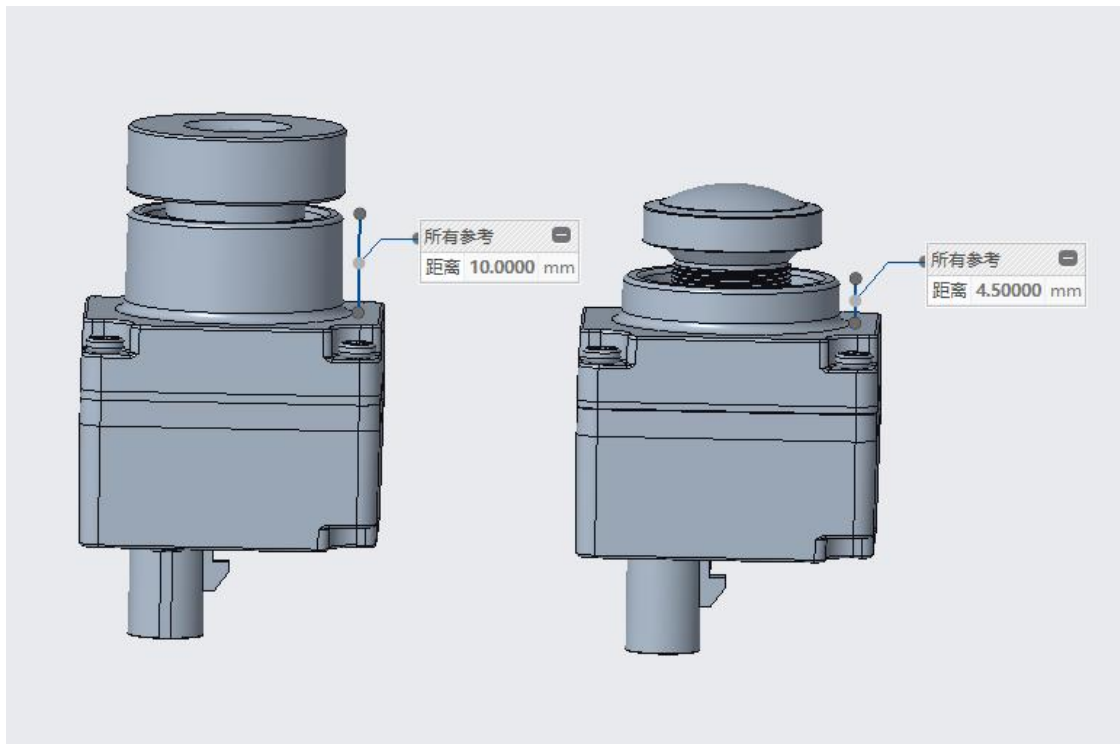
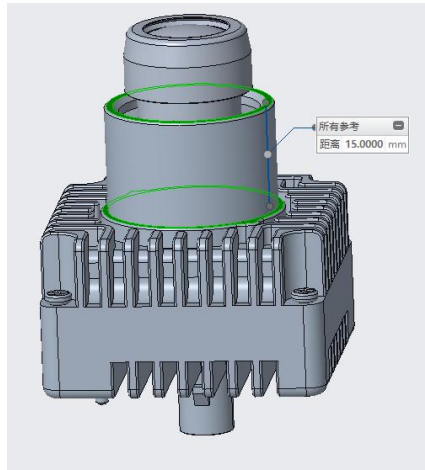
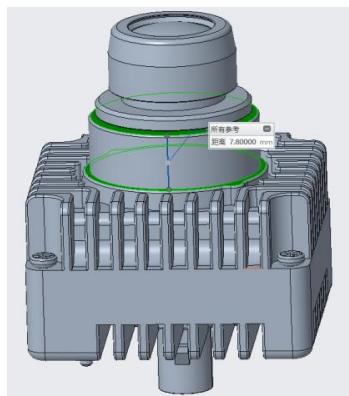

Figure 3 Long focal distance appearance: (protruding part as shown in Figure, 10mm)
Figure 7: The height of the protruding part is 15MM as shown in the figure
Figure 8
- Different focal distance use different lenses, and different lenses correspond to different protrusion heights of the lens base. There are two types of heights: short focal distance in Figure 7 and long focal distance in Figure 8, as shown in Figure 3.
- Different focal distance use different lenses, and different lenses correspond to different protrusion heights of the lens holder. Currently, the ones that have been mass-produced include the long focal distance shown in Figure 3, as shown in Figure 7.